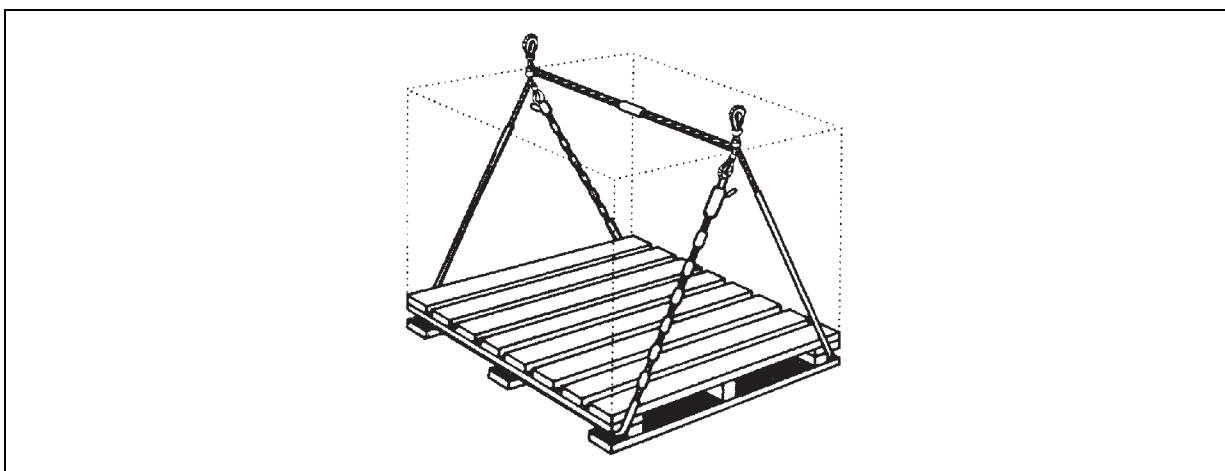

Figure 9-4. Pallet Sling
- **Pallet Sling.** The pallet sling is a two-loop wire rope sling used to lift loaded pallets without using a cargo net (figure 9-4). Lifting eyes provide the attachment points for the hoisting sling used to carry the load by helicopter. There are four models of this sling; each model accommodates a different size load and a color-coded tube on the cable between the two lifting eyes indicates the sling size (table 9-1).
- **Pallet Assembly (figure 9-4).** In assembling loads to be moved on pallets, the following rules apply: